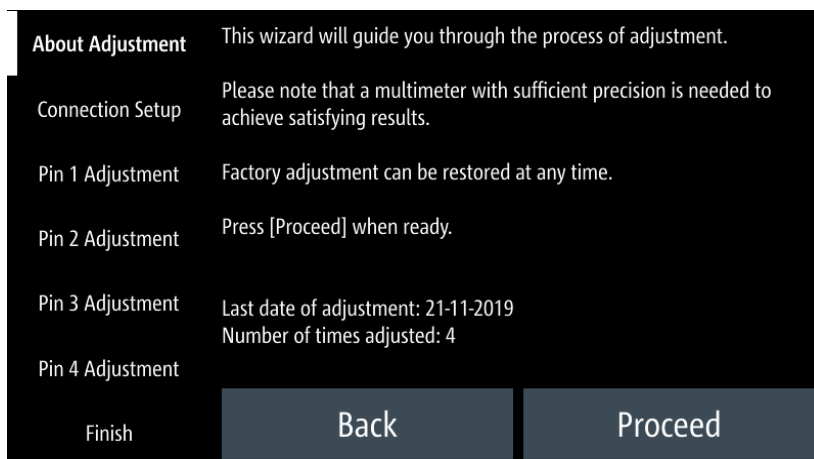

Figure 6-38: Analog in adjustment wizard
- Follow the on-screen instructions displayed in the Figure 6-38. Supply the required voltage to the analog input and key in the measured value from DMM using the on-screen keypad. See Figure 6-39.